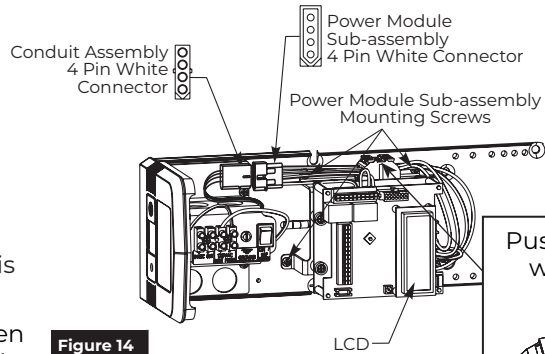

Figure 14
1. Using three (3) #8-32 x 5/16" Phillips screws, secure power module sub-assembly to backplate at location marked on backplate. (Figure 14)
**NOTE:** Orient assembly so LCD screen on inverter is toward closer assembly. (Figure 14)
2. Attach 4-pin white rectangular connectors between power module sub-assembly and conduit assembly. (Figure 14)